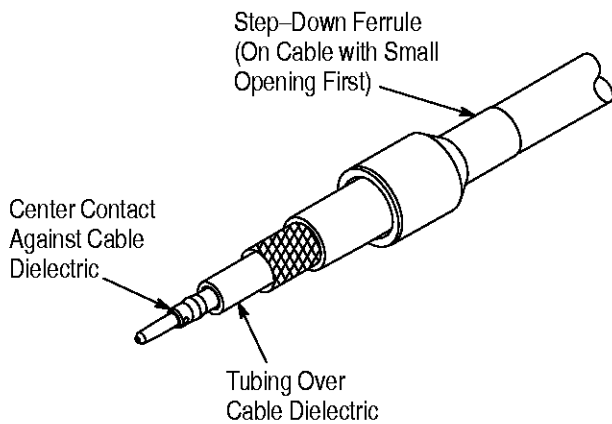

Figure 3
2. If using tubing, slip the tubing over the cable dielectric as shown in Figure 3.
3. Insert center conductor into center contact until shoulder of contact is against dielectric of cable. See Figure 3.